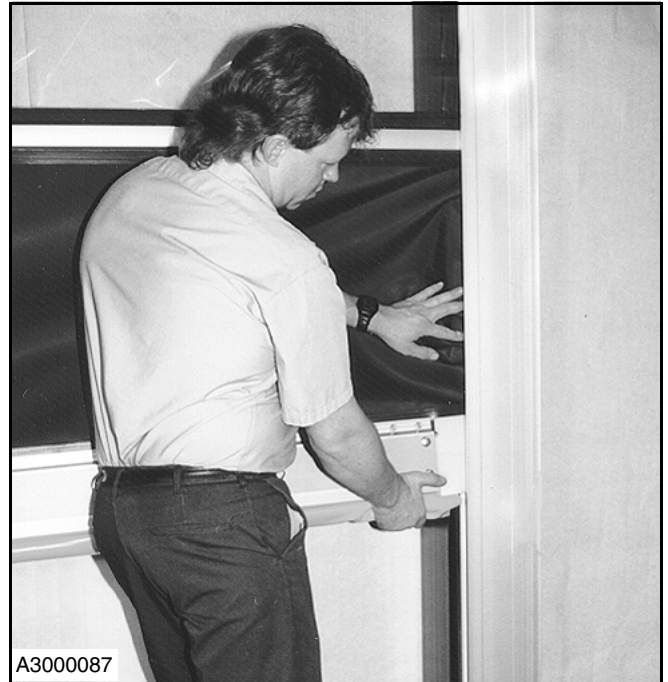

Figure 5
2. Check to make sure that the fabric is inside each channel. (See Figure 5.)